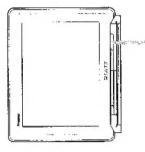

Fig. 2
- 1 Press the MENU button twice. The main menu appears. (See Fig. 2)